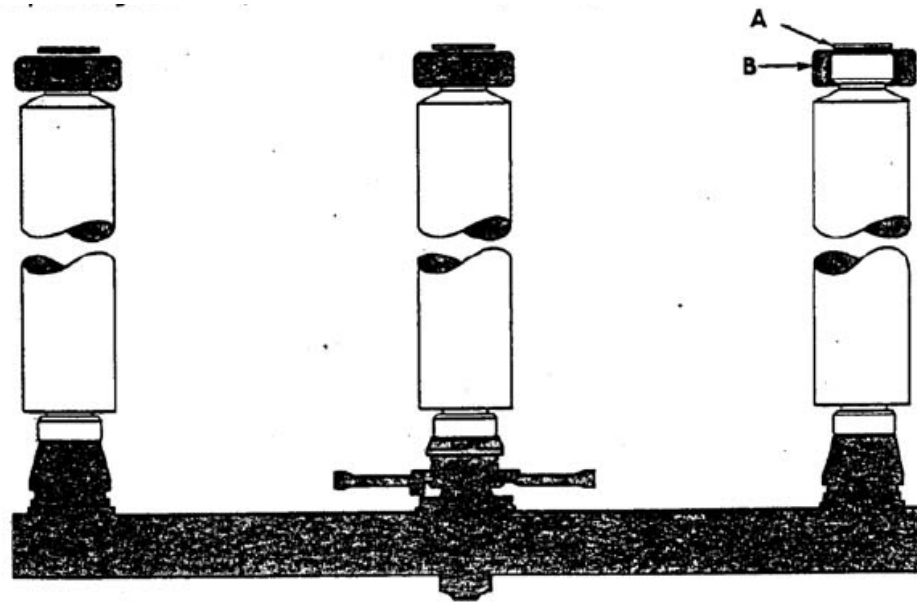

Figure 3: Insulator Mounting
4. Mount the insulators as indicated in Figure 3, using the bolts specified in the field assembly bolt list (SF Drawing). Be sure that the match marks made earlier line up. Place the corona shields as indicated in Figure 3. If the switch is equipped with a grounding switch jaw or outriggers, spacers will have to be used to maintain equal height of live parts. Refer to the Operating Mechanism Drawing.